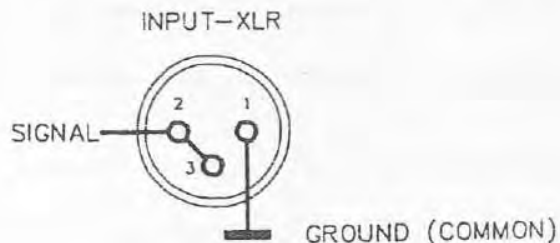

figure 2
- 14.02 Join Pins 2 and 3 of the input XLR together and inject a 100Hz sine-wave across Pins 2 & 3 and Pin 1 (ground). See figure 2.